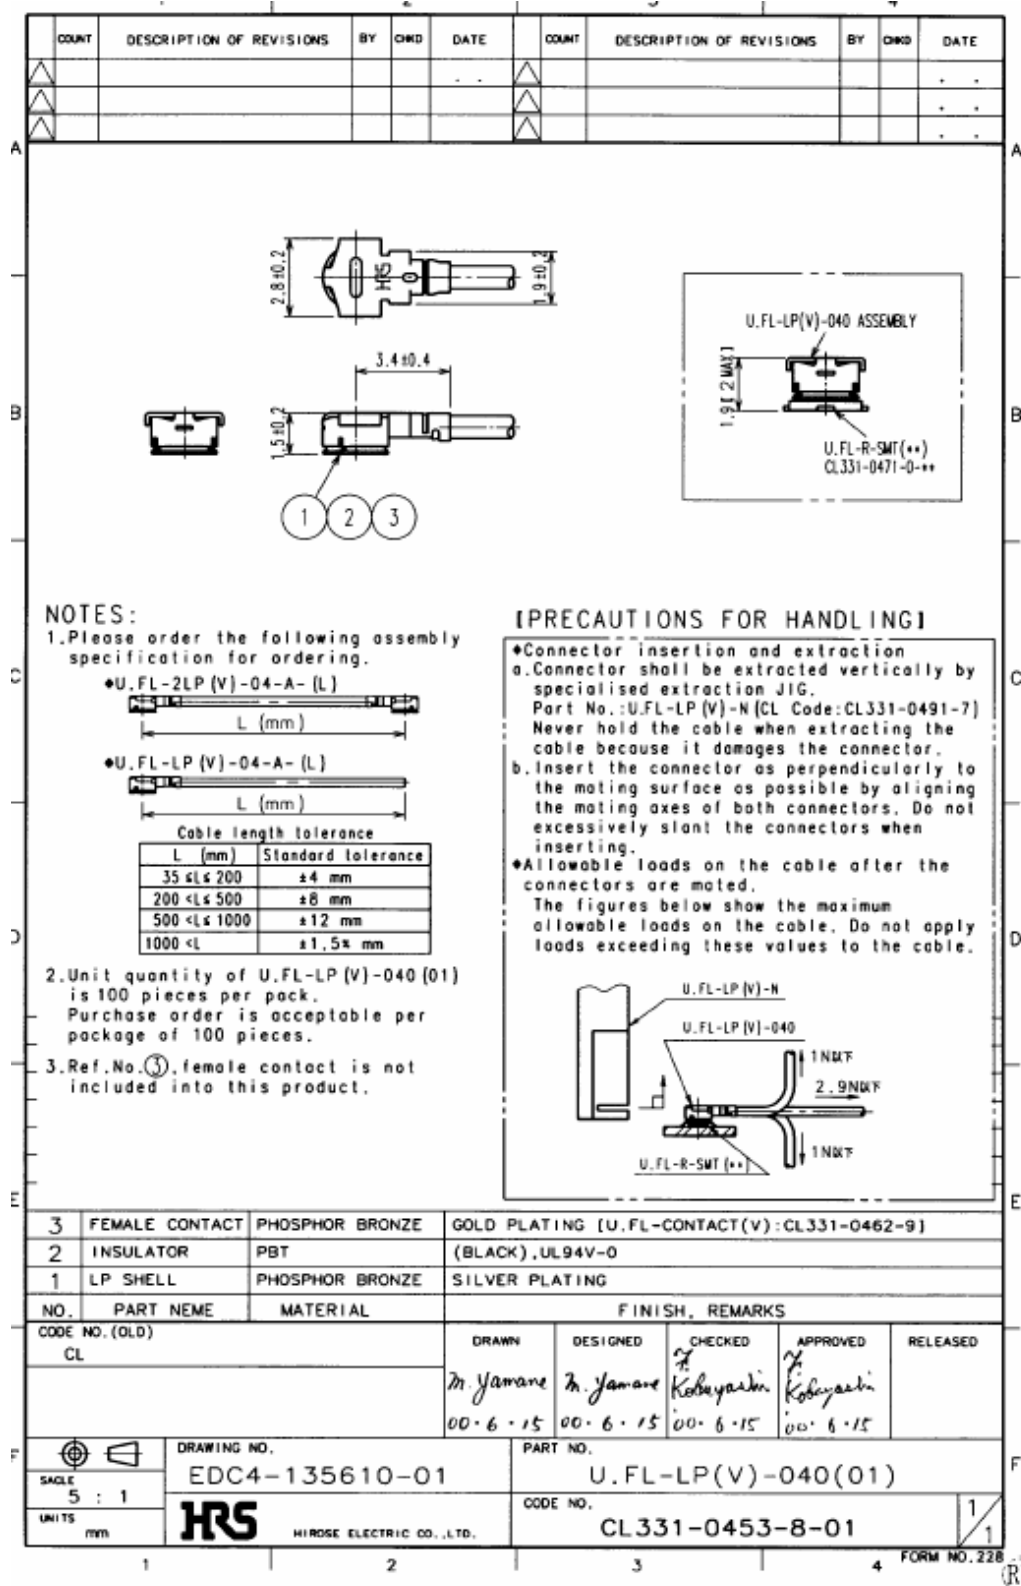

Figure 31: Specifications of U.FL-LP-(V)-040(01) plug
In addition to the connectors illustrated above, the U.FL-LP-(V)-040(01) version is offered as an extremely space saving solution. This plug is intended for use with extra fine cable (up to $\varnothing 0.81$ mm) and minimizes the mating height to 2 mm. See Figure 31 which shows the Hirose datasheet.